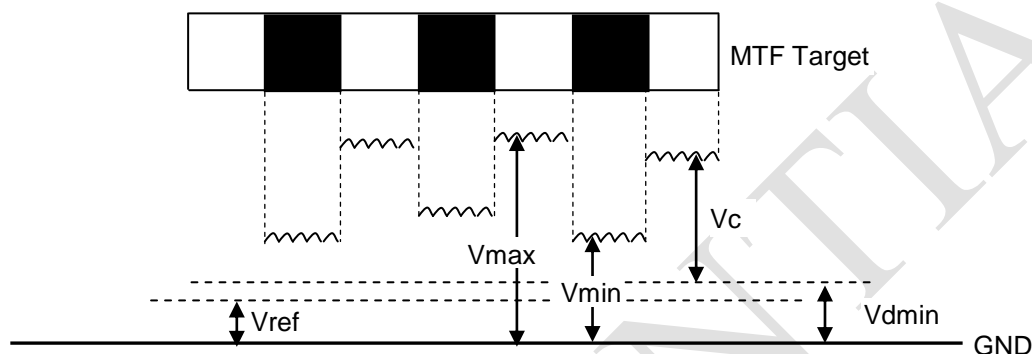

Figure3 Output Signal with MTF test target
4.6 Figure3 shows a typical output response of the module using a MTF image target.